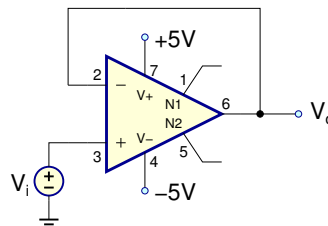

Figure 6: Unity-gain buffer configuration
1. For the unity-gain buffer in Fig. 6, find the transfer function  $V_o/V_i(s)$ , and sketch the magnitude Bode plot.
1. Draw the schematics for the unity-gain buffer in Fig. 6 with a load of  $2.2k\Omega$  in parallel with  $100pF$  at the output.
1. Build the unity-gain buffer in Fig. 6 with a load of  $2.2k\Omega$  in parallel with  $100pF$  at the output.
7. For the unity-gain buffer in Fig. 6: